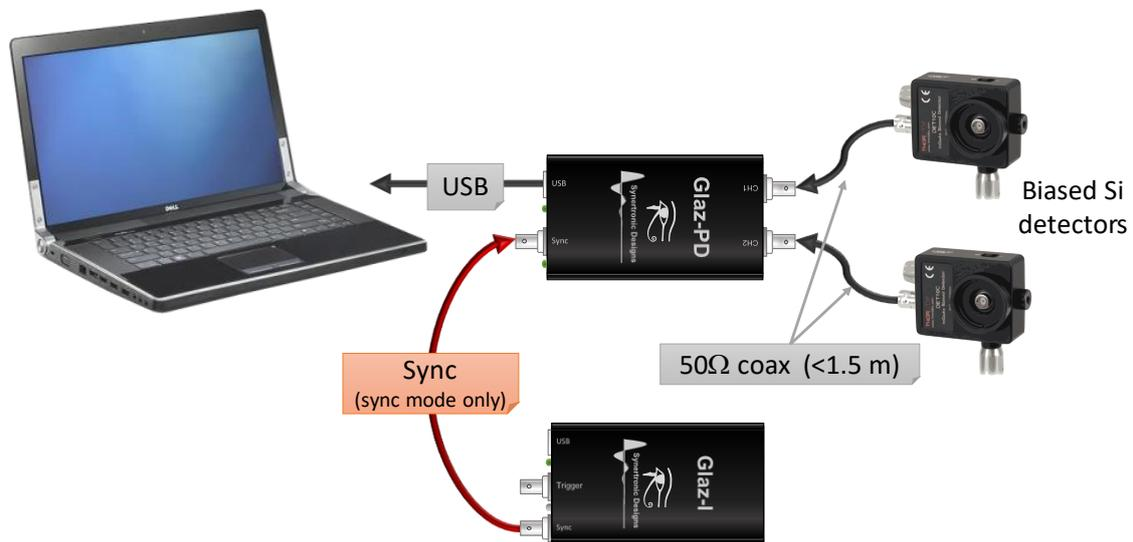
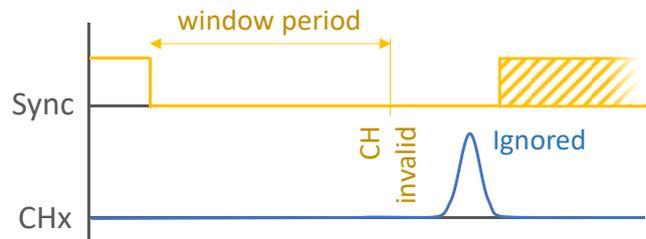

Figure 3 Connection diagram.
**Figure 5** Timing in synchronised mode with two enabled channels.
*Glaz-PD* can be configured to use only one or both channels. When configured to use both channels, the channels will only be digitized after both channels were triggered. The connection diagram of the *Glaz-PD* is shown in Figure 3.
The synchronised mode provides a mechanism to synchronise *Glaz-PD* devices with *Glaz LineScan* cameras with *PulseSync* mode. The connection diagram in Figure 3 shows how to connect *Glaz PulseSync* cameras to *Glaz-PD* devices. The *Sync* port is used for this purpose. The synchronised mode timing diagram with two enabled channels is shown in Figure 5.
Some examples of channel validation are shown in Figure 5 and Figure 6.